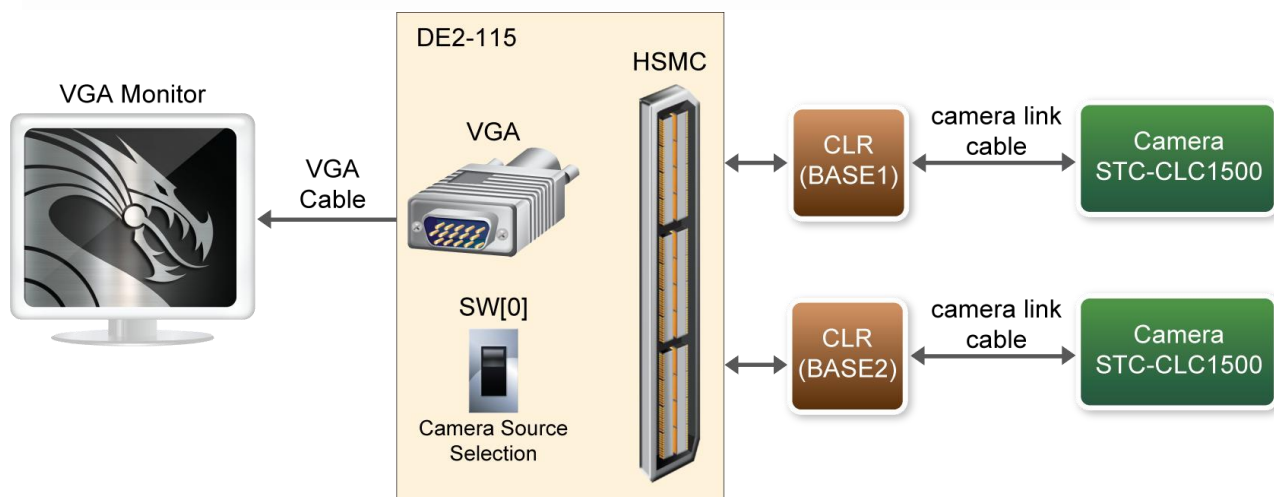

Figure 5-6 The Connection Setup for DE2-115 Users
1. Ensure the connection is made correctly as shown in Figure 5-6. Make sure the CLR Card is connected to **JP8 (HSMC)** of the DE2-115 board.
V1.1	Figure 5.6 add BASE2 camera description